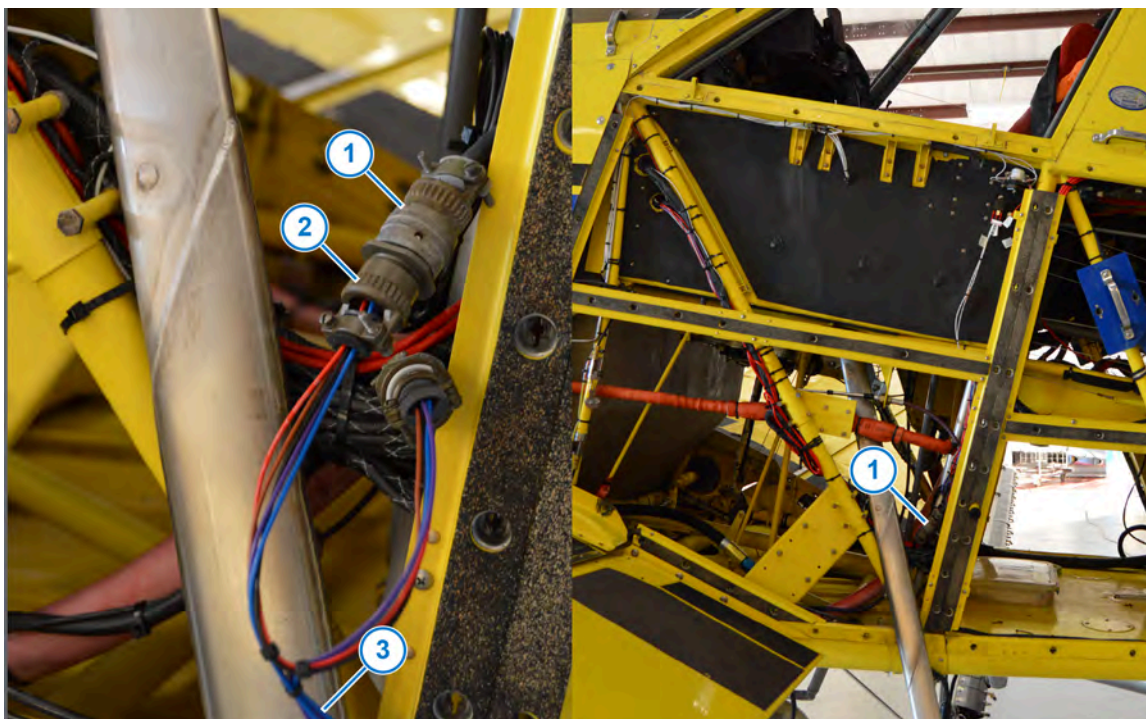

Figure 38: Servo/Flow Control Harness Install
1. Locate the existing connector (Figure 38, Item 1) in the fuselage above the servo/flow control valve.
3. Install the correct harness (Figure 38, Item 2) between the existing connectors.
4. Route the harness (Figure 38, Item 3) to the Gateway hub.